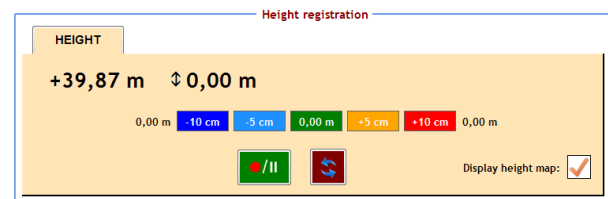

Figure 61 Height recording.
- Go to the height registration menu (Figure 61) by tapping on **REGISTRATION > HEIGHT** and selecting the white box next to **Display height map**.